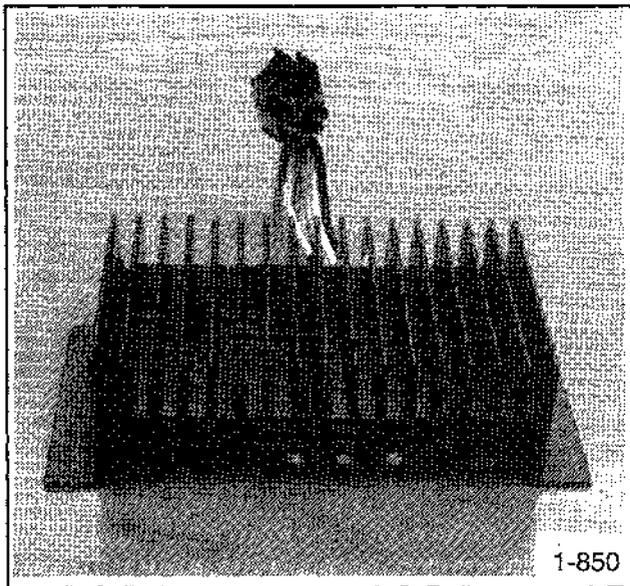

Figure 7-1. PowerBoost III E Voltage Regulator.
1. Disconnect all leads from voltage regulator. See Figure 7-1.